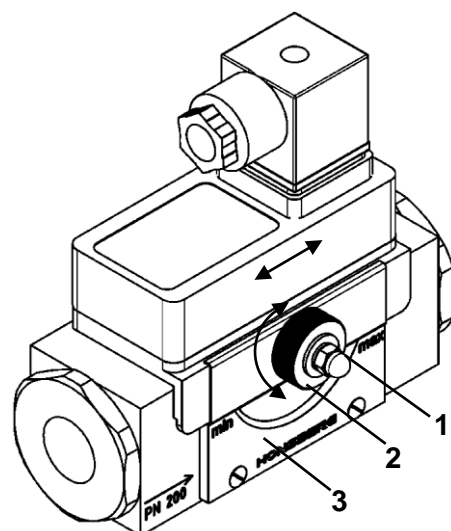

Figure 9: HM1K/HM2K, HD1K/HD2K setting
With the device designs HM1K/HM2K, HD1K/HD2K (Fig. 9) the adjustment occurs via a sprocket adjustment. Remove the cap nut pos. 1 (SW 8). The required switching value can be set by turning the adjustment rod pos. 2. Turning anti-clockwise causes a increase in the switching point, turning clockwise causes an decrease in the switching point. The set value can be read on the analog indicator pos. 3.